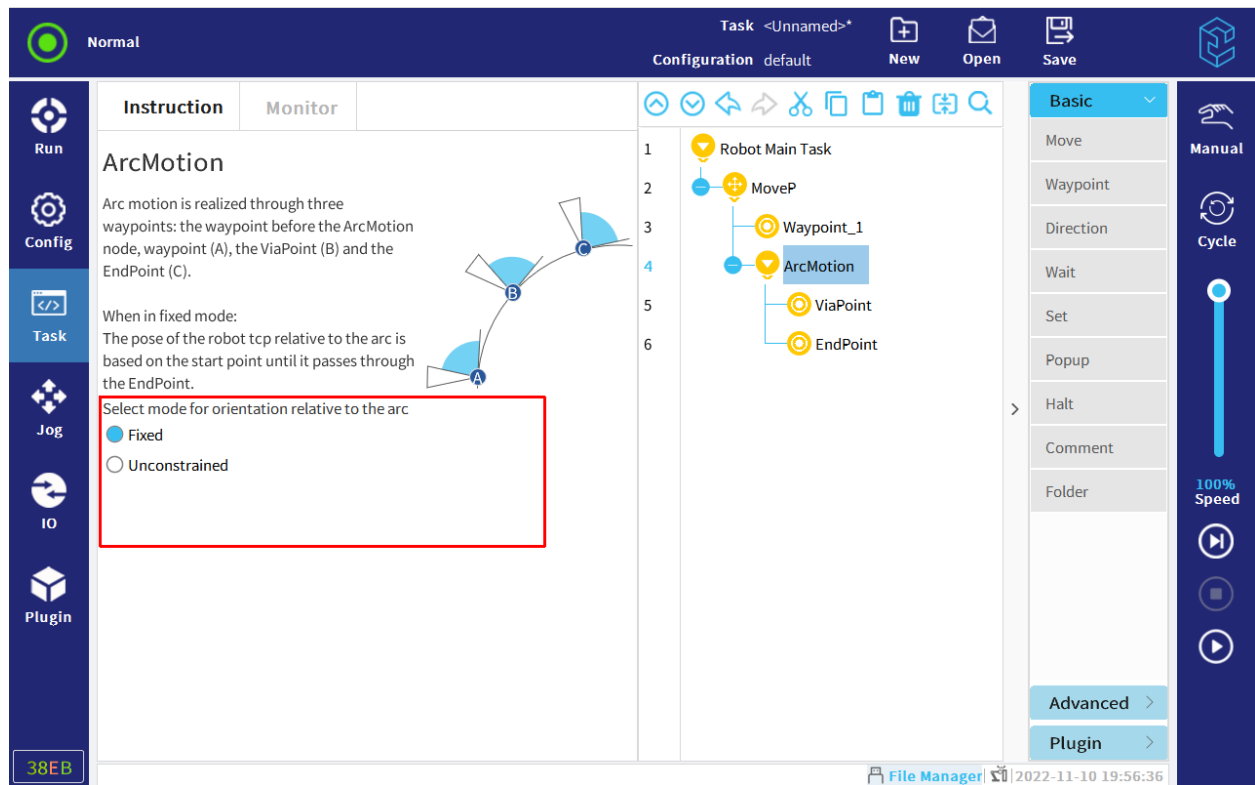

Figure 12-8 Circular motion
3. Click  , add an arc motion, as shown in Figure 12-8.